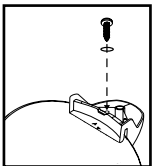

FIGURE 5
7. Secure feet with screw and washer when provided **FIGURE 5.**